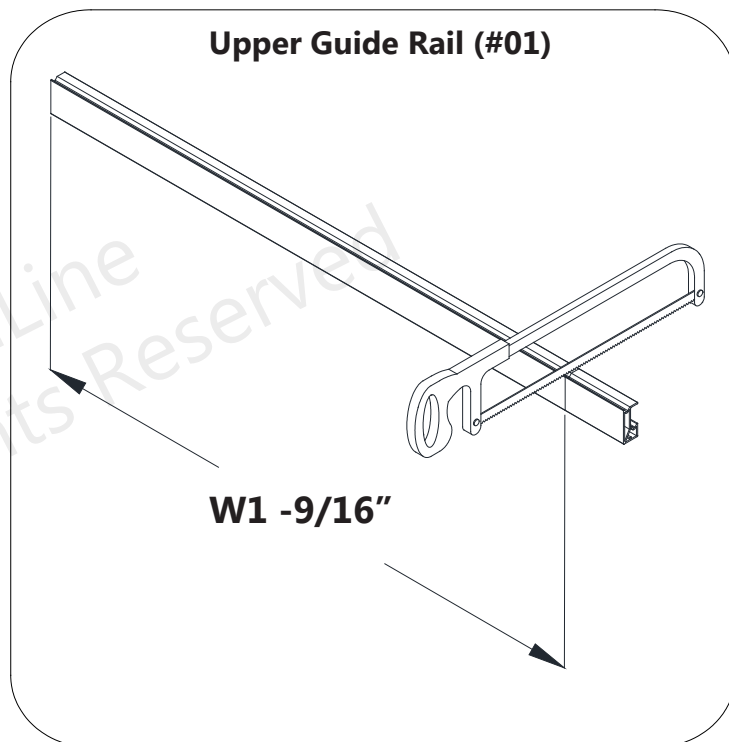

Fig 2a
□ Cut the **Upper Guide Rail (#01)** to: **"W1"(top) dimension - 9/16"** (Fig 2a)